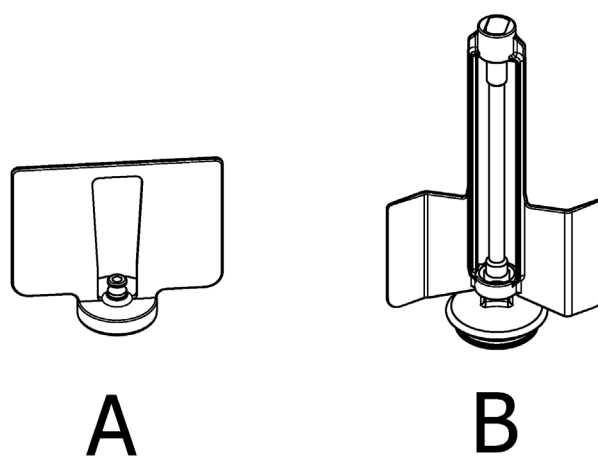

figure 6
The dispensers of Arctic Deluxe series are available also with slow mixers. Two kind of slow mixers are available: one with magnetic driving (A) and the other with mechanic driving (B). The first one is suitable for delicate drinks like tea or coffee while the other one is suitable also for thick drinks (see figure 6).